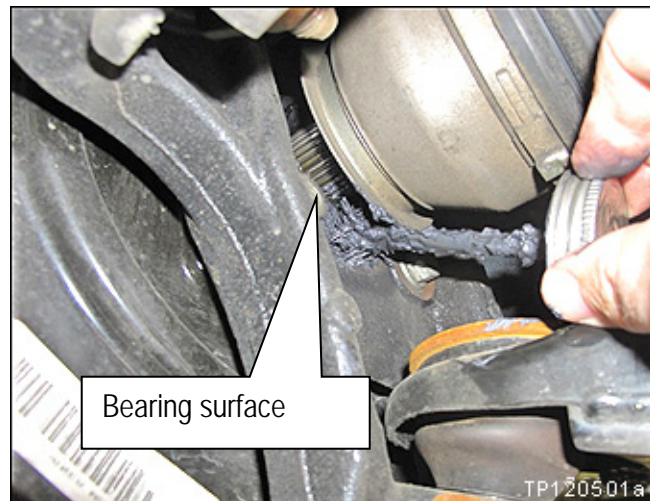

Figure 2
3. Apply a moderate coat of Molykote® to the entire (front or rear) wheel hub bearing surface (Figure 2).